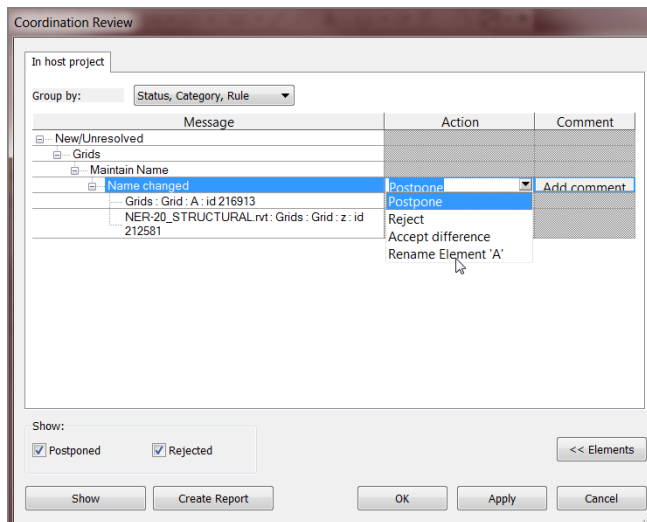

FIGURE 20.13: Telling Revit to rename the grid automatically
10. In the Coordination Review dialog, expand the Grids category (under the New/Unresolved category), as shown in Figure 20.13.